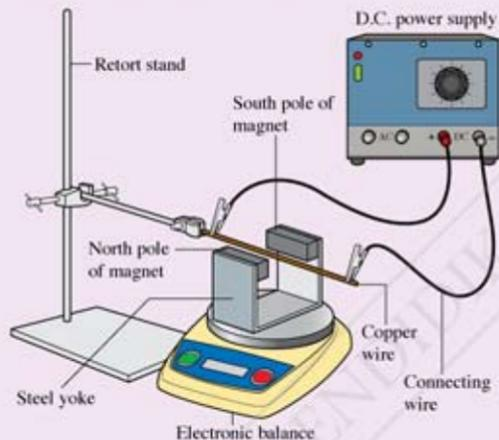

Figure 4.5
1. Set up the apparatus as shown in Figure 4.5.